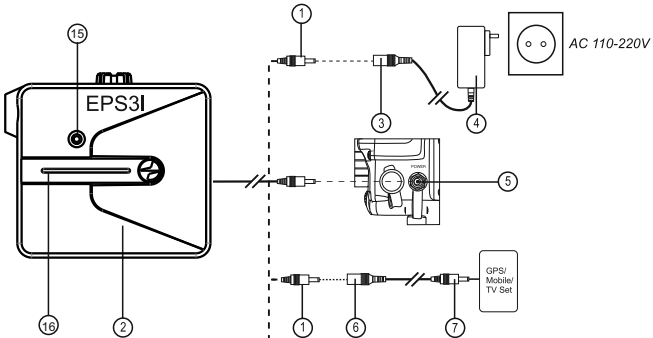

Fig.1
- Connect the plug (1) of a Battery pack to the jack (8) of the car adapter (9) (Fig.1).
- Plug the car adapter (9) to the car lighter (10) of your car.